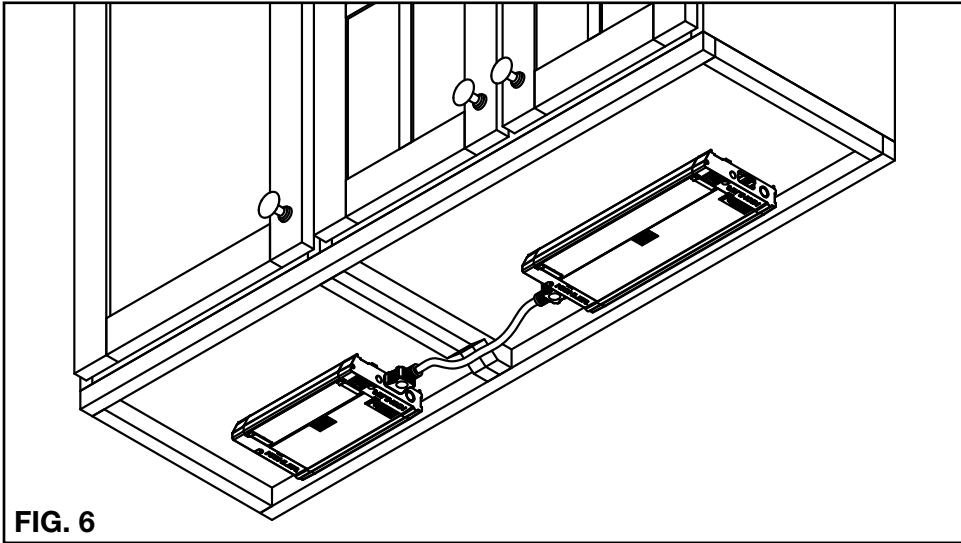

FIG. 6
2. Hold the fixture in the desired mounting location, not more than 21” from nearest interconnected fixture, allowing approximately 2 ½” clearance for interconnect cables. Drive mounting screws into cabinet surface until fixture is secure. If screws are difficult to install, mark holes and drill 1/16” maximum pilot holes. (ref. FIG. 6) **NOTE:** For 22” and 30” fixtures, open wire compartment by inserting flathead screwdriver into the slots and wedging cover open to install center screw. Once installed, swing the cover towards the fixture and close it by pressing at the ends of the cover until the cover snaps into place and is flush with the fixture.